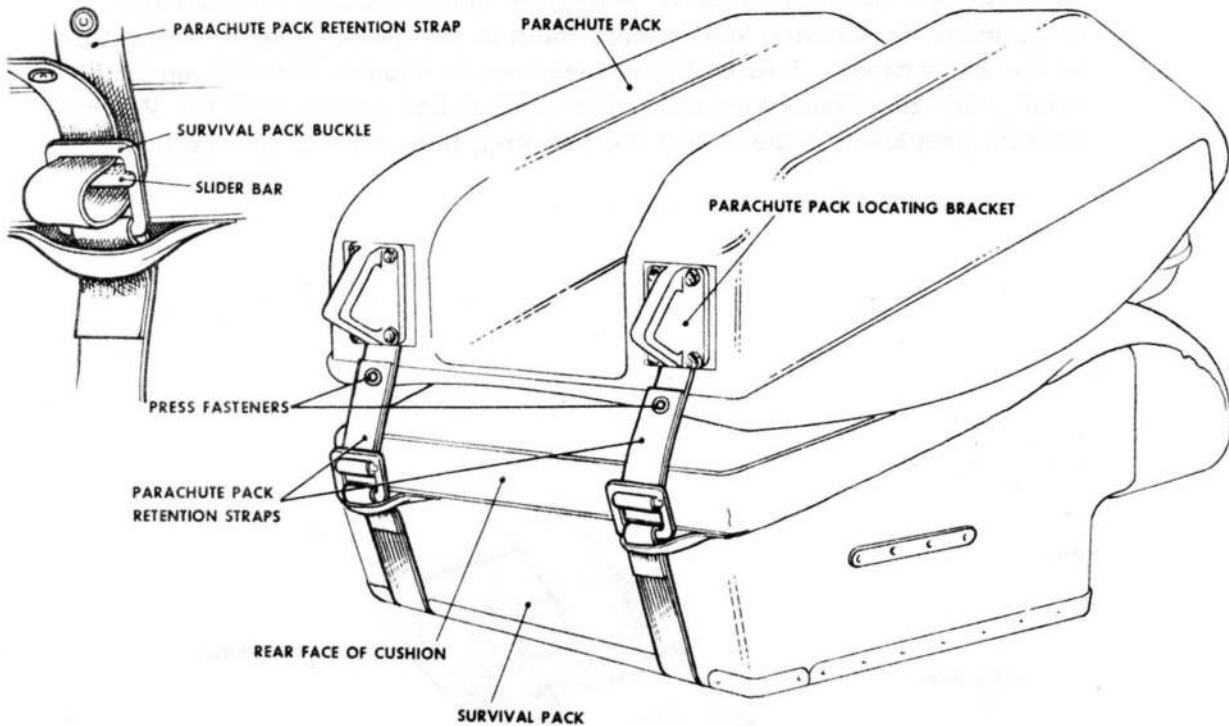

Fig 7 Attachment of parachute pack retention straps to survival pack
- 8) Lay the parachute pack face down on top of the survival pack. Attach the parachute pack retention straps to the buckles on the rear of the survival pack. The straps are to be routed down the rear face of the survival pack cushion rearwards through the buckle under the slider bar, up around the bar and forward through the buckle again above the slider bar and secured by the press stud fasteners, (fig 7).